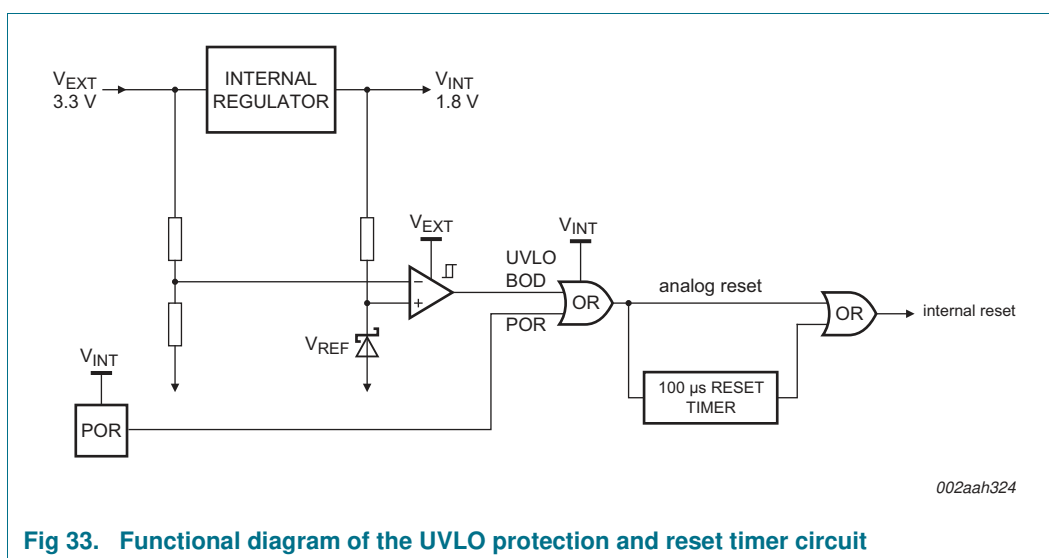

Fig 33. Functional diagram of the UVLO protection and reset timer circuit
- Section 10.1 abbreviated for clarity. - UVLO description including description of cold start-up behavior moved to the LPC11Axx user manual. - Table “Slew rate for the internal regulator power-up from ground” removed. This specification is included in the cold start-up description in the LPC11Axx user manual. - Details regarding boundary scan added to Section 7.24 “Emulation and debugging”. - Figure 33 “Functional diagram of the UVLO protection and reset timer circuit” updated to include the reset timer circuit. - Section 12.8 “Guidelines for selecting a power supply filter for UVLO protection” added. - Section 7.23.2 updated to include internal reset timer. - Parameter t_{PD} corrected in Table 24. - Parameter $E_{V(O)}$ corrected in Table 26.